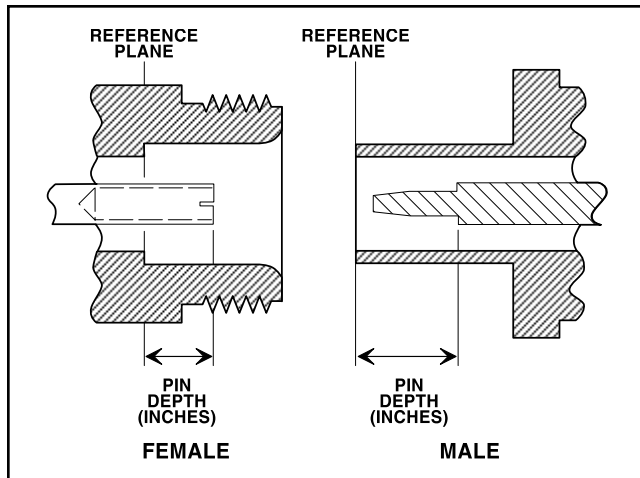

Figure 2. N Connector Pin Depth Definition
a. Beware of Destructive Pin Depth of Mating Connectors. Based on RF components returned for repair, destructive pin depth of mating connectors is the major cause of failure in the field. When an RF component connector is mated with a connector having a destructive pin depth, damage will usually occur to the RF component connector. A destructive pin depth is one that is too long in respect of the reference plane of the connector (Figure 2, page 3).